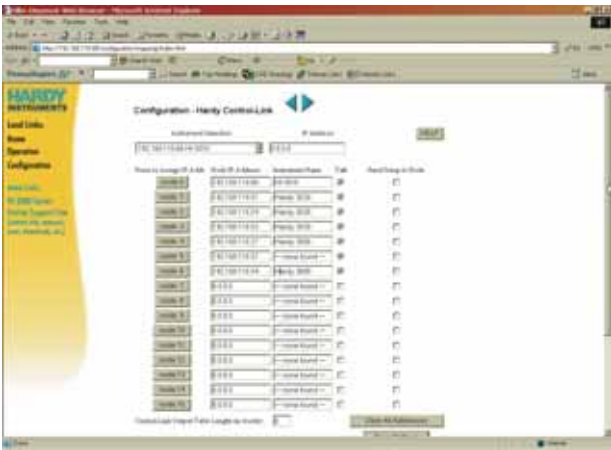

FIG. 108: SAVING THE CONFIGURATION
- Step 10. Click on the Save Settings button to save the configuration. (See Fig. 108)